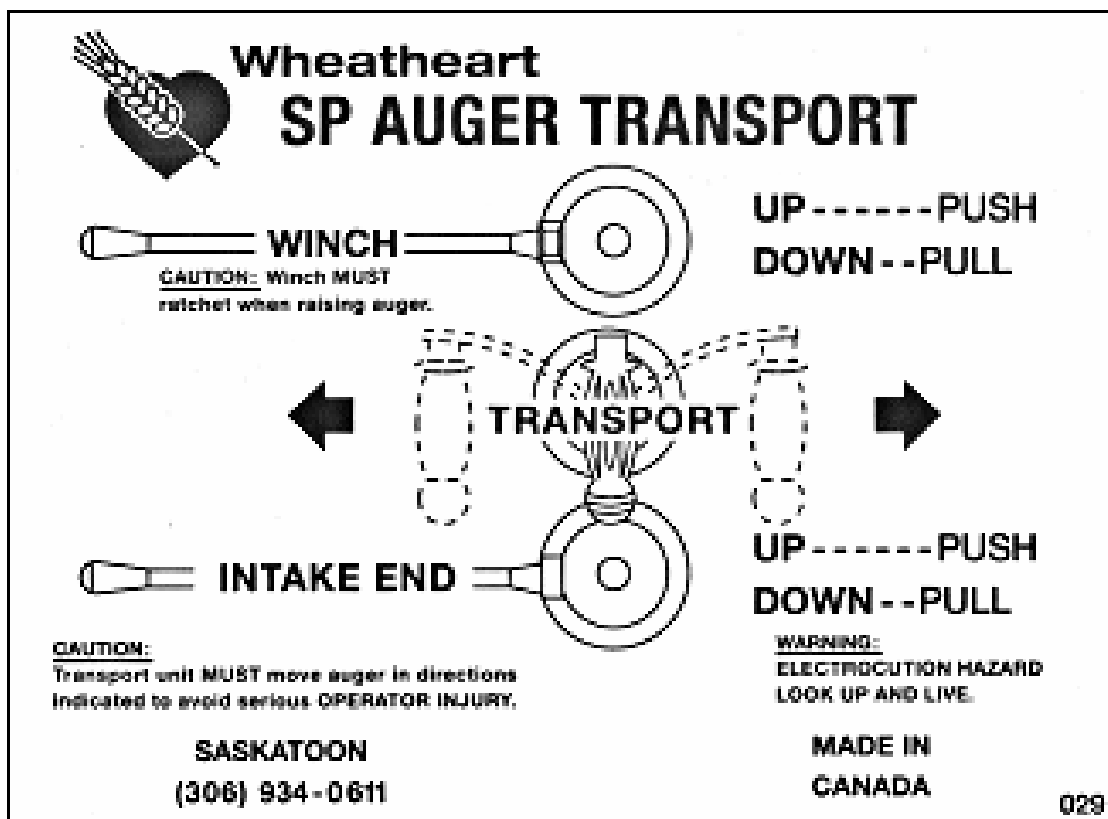

Figure 5.1 Hydraulic Control Valve Decal
1. With the engine at idle, use the hydraulic controls (Figure 5.1, and 5.2) to fully lower the auger with the **winch control** lever on the valve before moving the auger into position.